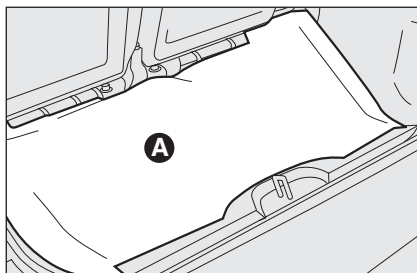

fig. 3
- ☐ lift the luggage compartment mat **A-fig. 3**;
- ☐ stow the space-saver wheel **D-fig. 3** in the space provided in the boot;